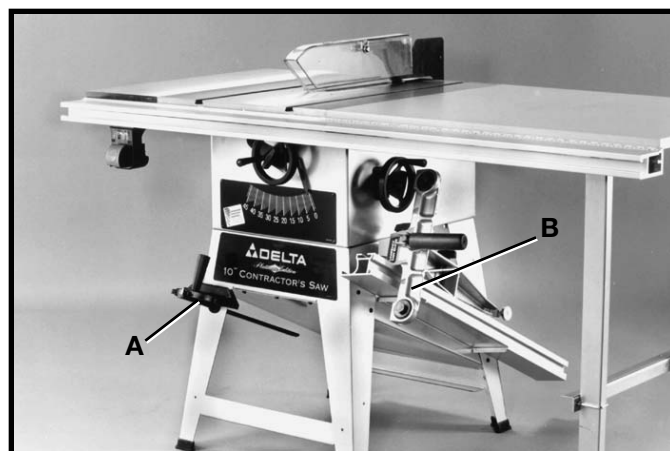

Fig. 108
1. When not in use, the miter gage (A) Fig. 108 can be stored through the hole located at the front side of the stand.
2. The rip fence (B) Fig. 108 can be conveniently stored out-of-the-way on the stamped ledges on the right side of the saw stand.